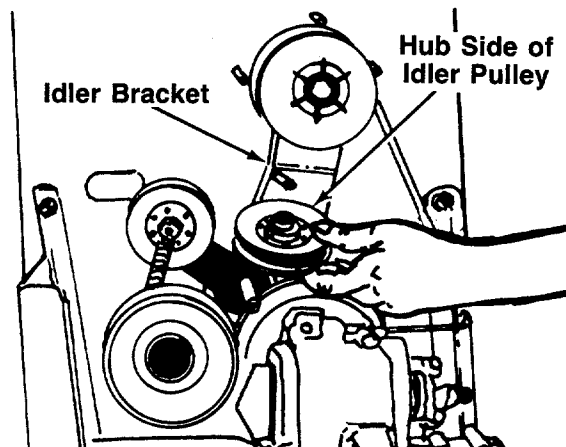

FIGURE 38.
10. Upon reassembly of idler pulley, be certain the hub side of idler goes against the idler bracket. See figure 38.